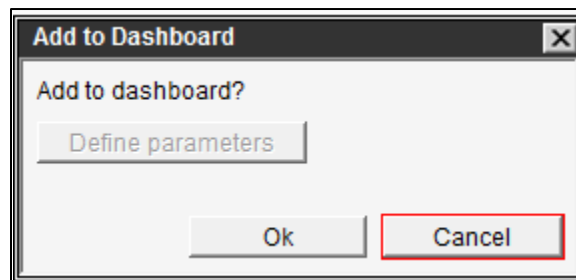

Figure 3-7. Add to Dashboard Dialog Box Example
2. Proceed to select **OK** in the dialog box (Figure 3-7), unless:
- a. For a Jasper report, select the **Define parameters** button as enabled in the dialog box (Figure 3-7).
- c. In the Add to Dashboard dialog box (Figure 3-7), select **OK**.